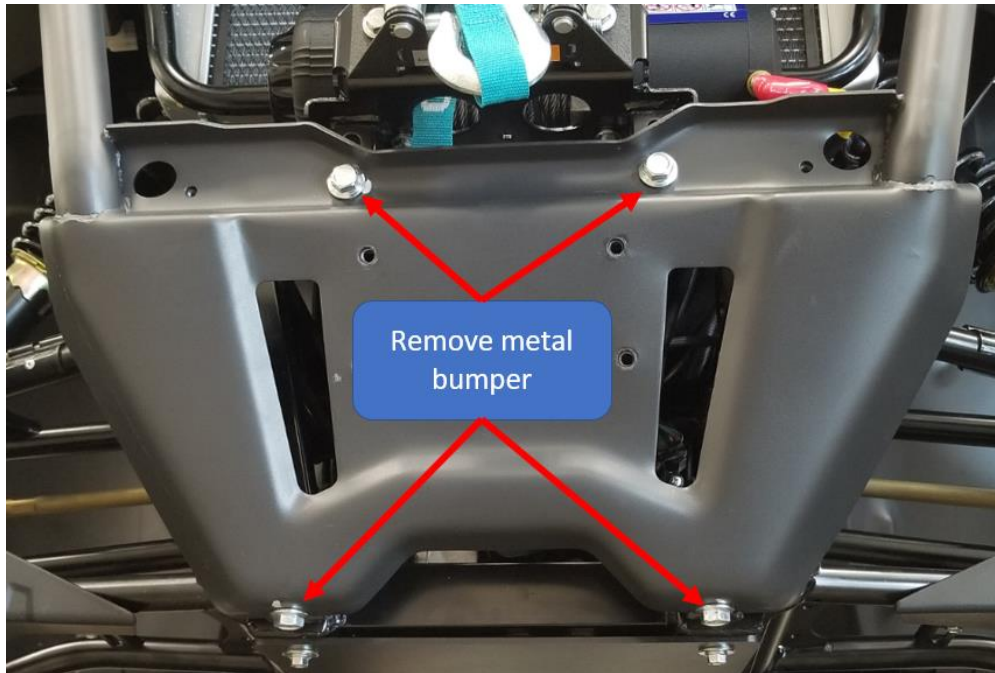

Figure 3
3. Remove metal bumper as shown in **Figure 3**